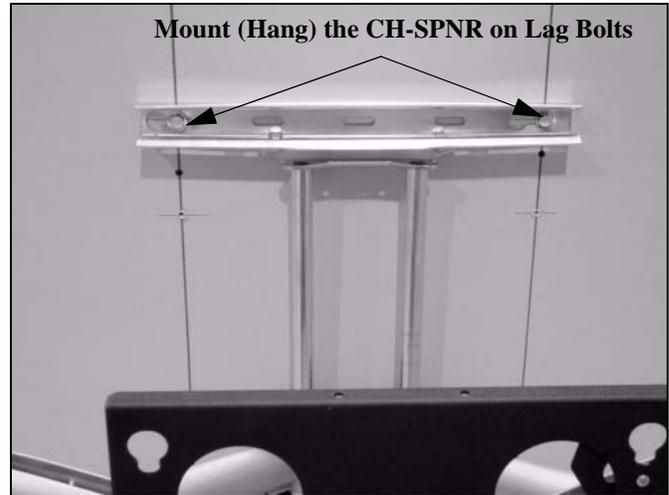

Figure 2
1. With an assistant, lift and hang the CH-SPNR on the two lag bolts and washers previously installed on the wall. (See Figure 2).